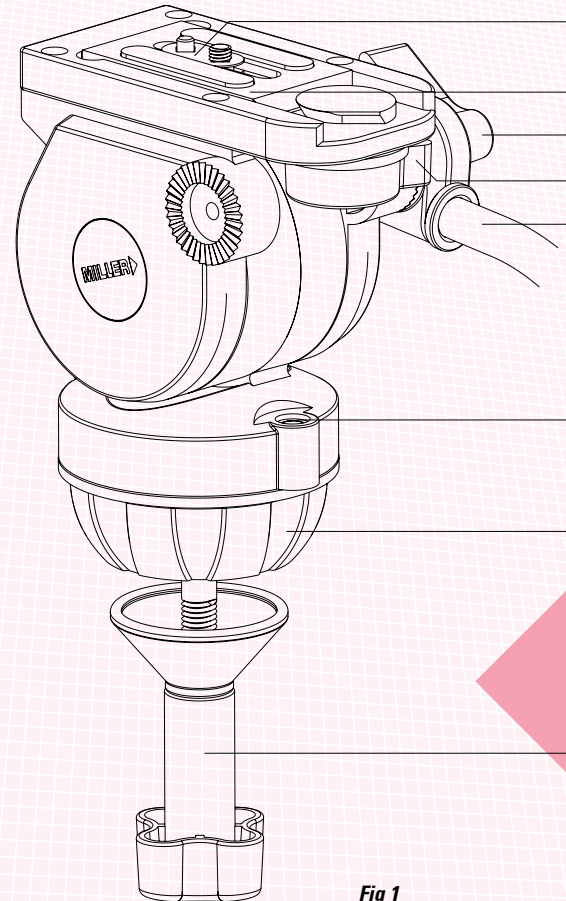

Fig 1
- 1.1 Unscrew CLAMP NUT from threaded stud. (See Fig 1)